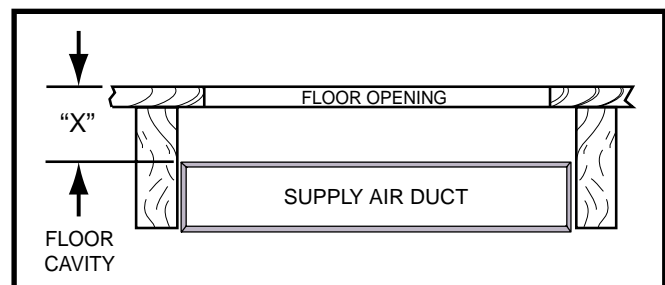

Figure 7. Floor Cavity
4. Measure from the top of the floor down to the top of the supply air duct to obtain the depth of the floor cavity. **NOTE:** The depth of the floor cavity shown as "X" in Figure 7 will determine the correct duct connector.